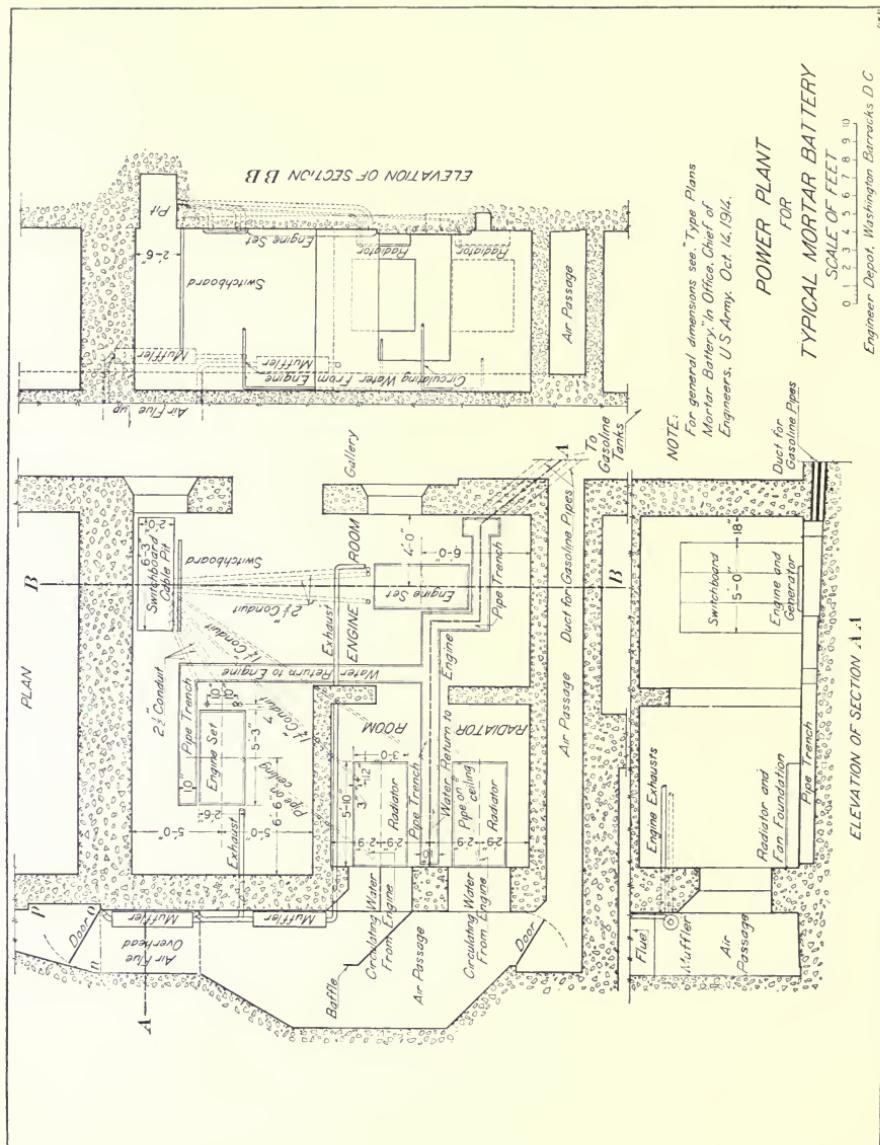

Fig. 24.
35. Provide the sets with a suitable foundation, at least 2 feet thick and resting on hard earth. The foundation bolts should be set in pipes, allowing displacement in all directions until the engine is located over them. The customary way of insuring that the engine base will have an even bearing on the foundation, is to raise it about  $\frac{3}{8}$  to  $\frac{1}{2}$  inch on wedges or shims; level it and tighten holding nuts and then float the top of the foundation with concrete grout to a height slightly above the bottom of the engine base. The simplest way of leveling the engine consists in removing cylinder No. 4 and leveling the machined surface of its seat both longitudinally and laterally. Be sure that grout fills pipes for foundation bolts. The subbase, the radiator, and fan motor should be similarly installed on a concrete foundation of at least 6 inches thick. The district engineer officer must provide the necessary foundation bolts ( $\frac{3}{4}$ -inch diameter) for the radiator subbase. For typical sections of foundations see figs. 24 and 25. Sets will run without objectionable vibration or excessive noise only when foundations are properly constructed.
**38c. Use of radiator to heat battery room.**—In cases where "condensation" troubles are likely to be met, provision should be made for the use of hot air from the radiator to heat the battery rooms. Fig. 24 shows a typical power installation in a modern mortar battery. When the door in air passage is in position *o-n*, the hot air from the radiator is discharged through the flue; when in position *o-p*, the hot air may be forced through the various battery rooms. To insure the proper circulation of air in the latter case, it may be necessary to place a damper in the flue. Fig. 23 show a convenient arrangement and the use of doors in 14-inch gun battery (2-story type) in cases where it is desirable to heat battery by hot air from the radiator. The radiator in this case discharges into the air passage. By closing the doors across passage *bb*, the hot air is